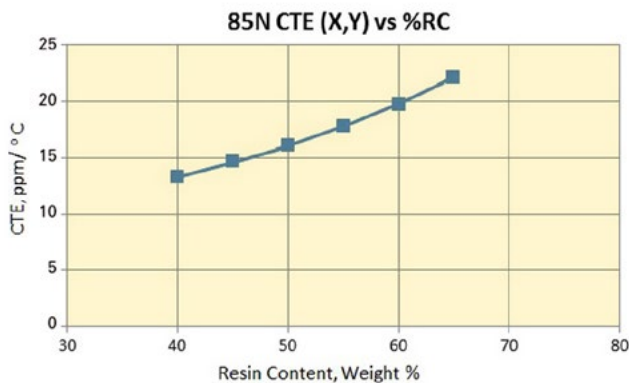

Figure 3.
1. Polyimide (85N resin/E-Glass reinforcement) at 1 MHz (Figure 3 and 4).